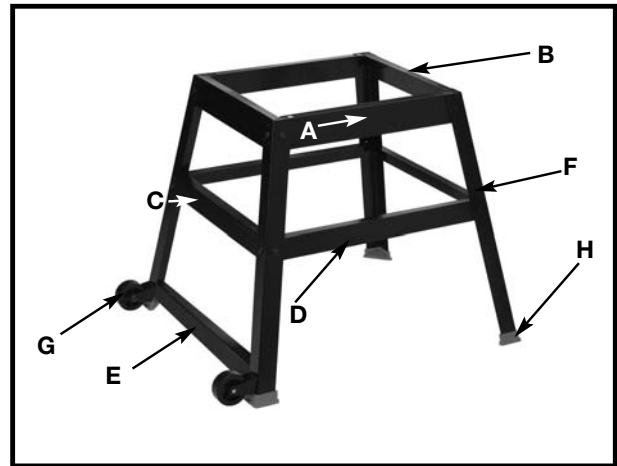
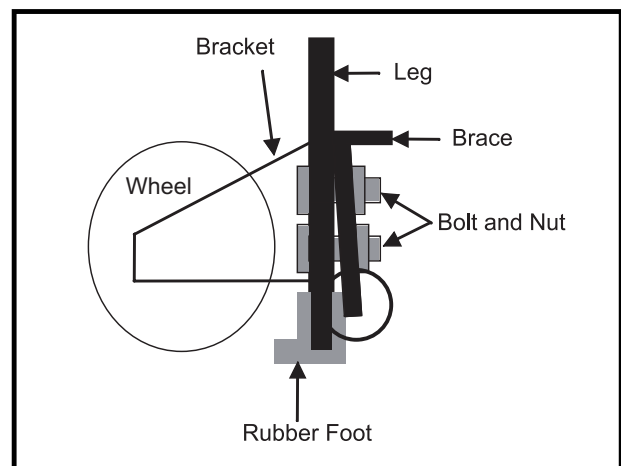

Fig. 11
Fig. 12
1. Attach the rubber feet (H) Fig. 11 to the bottom of each leg (F).
Locate the two legs (F) which have holes at the bottom for attaching the wheel brackets (G) and brace (E). (**Make sure wheels and brackets are properly oriented. See inset Figure 12**). To attach the brackets, remove the nuts from the bolts and insert the bolts through the holes in the bottom of the two legs and into the holes in brace (E). Thread the nuts back on the bolts and tighten. Assemble the stand as shown in Fig. 11, using 16 M8x1.25x20mm carriage head bolts, 3/8 inch flat washers and M8x1.25 hex nuts. Align the holes in the stand legs (F) with the holes in the brackets. Insert the carriage head bolt through the hole in the leg and the hole in the bracket, place a flat washer on the carriage head bolt and thread a hex nut onto the carriage head bolt. Repeat this process for the 15 remaining holes in the legs and brackets.